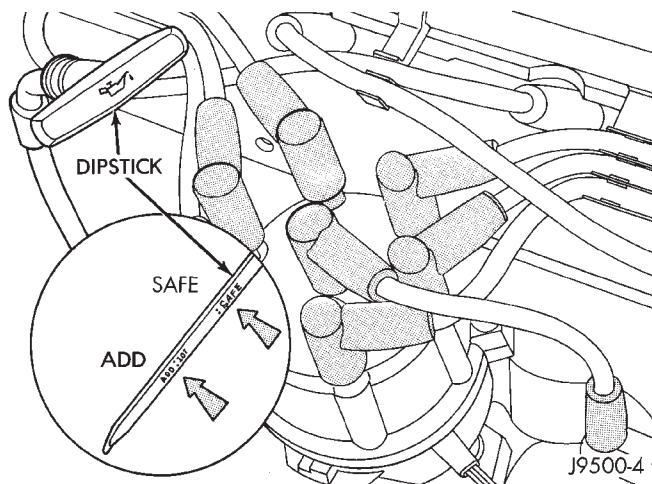

Fig. 8 Engine Oil Dipstick—4.0L Engine
To ensure proper lubrication of an engine, the engine oil must be maintained at an acceptable level. The acceptable levels are indicated between the ADD and SAFE marks on the engine oil dipstick (Fig. 8).
- (1) Position vehicle on level surface.
- (2) With engine OFF, allow approximately ten minutes for oil to settle to bottom of crankcase, remove engine oil dipstick.
- (3) Wipe dipstick clean.
- (4) Install dipstick and verify it is seated in the tube.
- (5) Remove dipstick, with handle held above the tip, take oil level reading (Fig. 8).
- (6) Add oil only if level is below the ADD mark on dipstick.